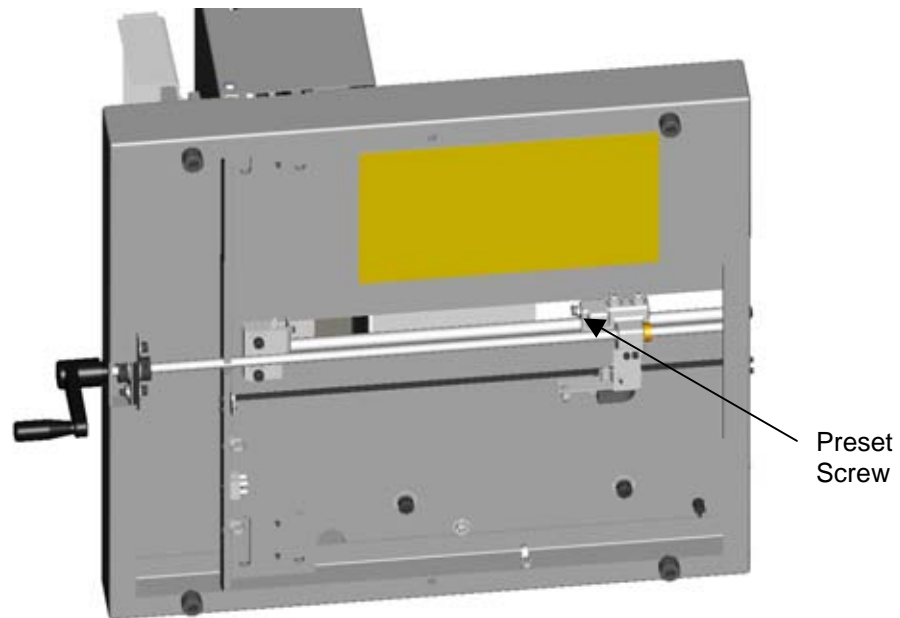

**Figure 8**
3. Take a sheet from the center of each lift and compare them to each other. The cutter will always space accurately between cuts (in this case the 10" and 5" cuts) whether the overall accuracy is correct or not (Figure 8). The front stack will be a true 5", but the paper left against the backgauge will not be if the backgauge position is inaccurate.